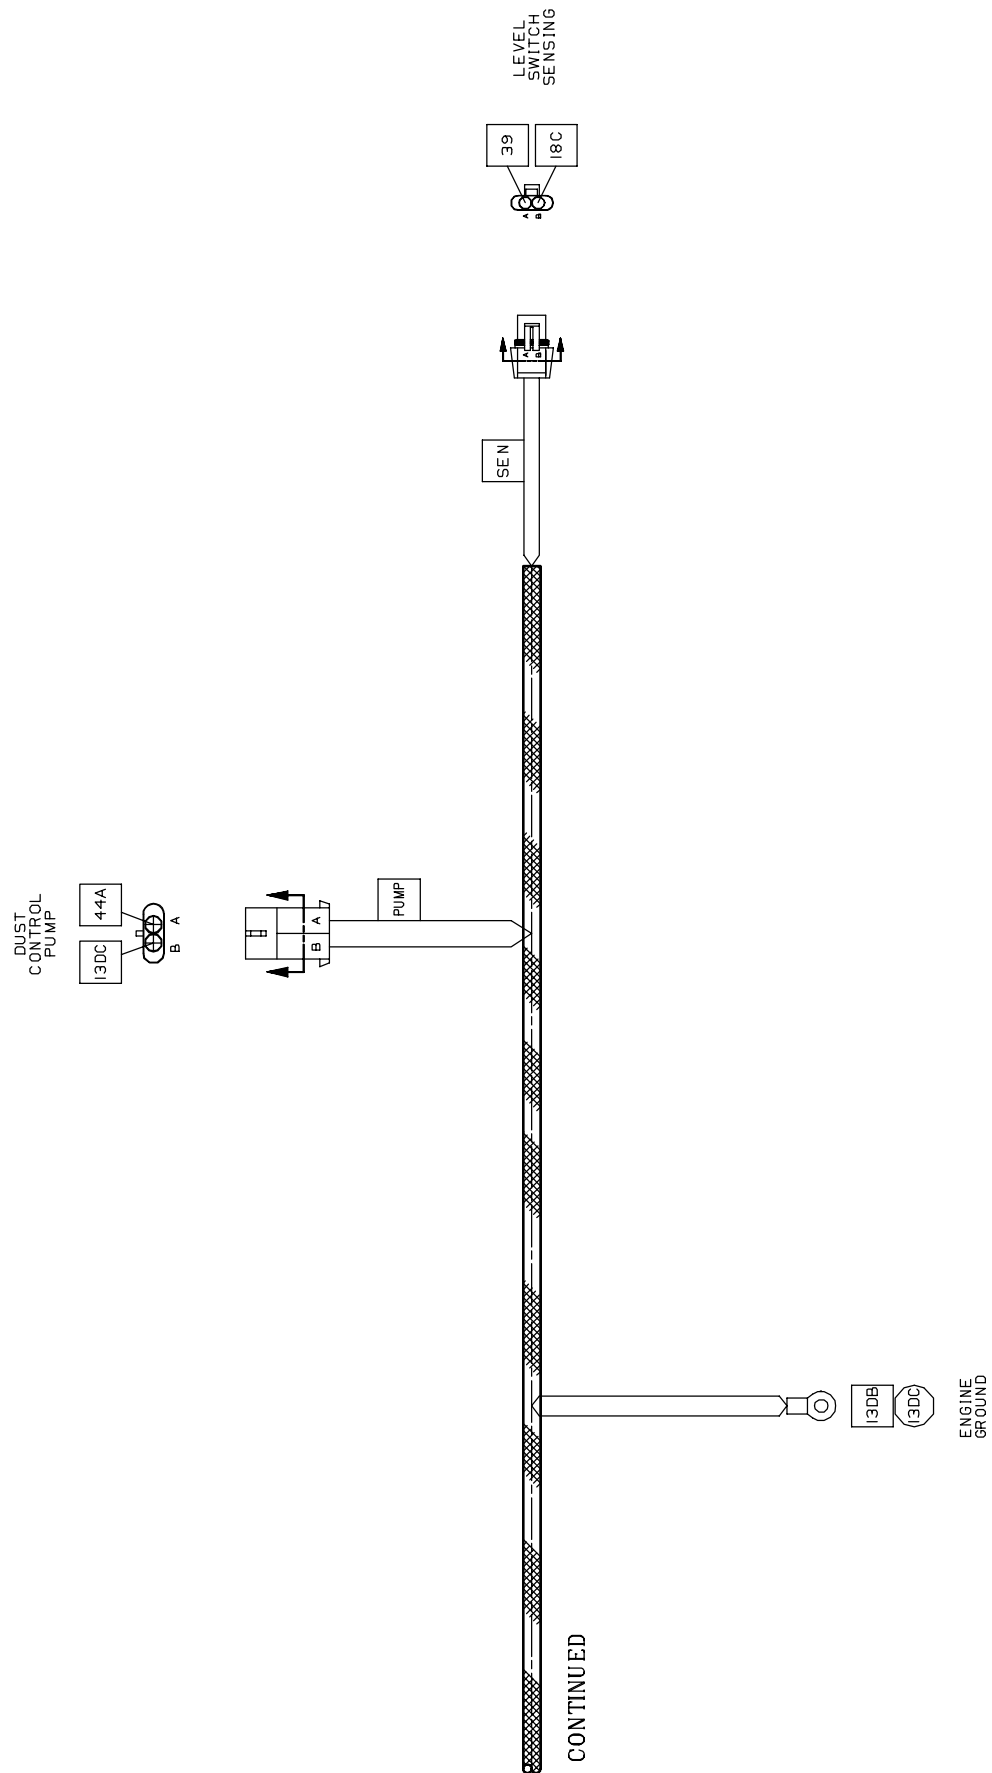

FIG. 2 - DUST CONTROL HARNESS
(Refer to FIG 2 and 3)
15. Mount the water flow timer (44) to the back side of the control panel, next to the circuit breakers. Connect the wire harness (34) to circuit breaker 1 using connector 378953. Close the control panel and replace the steering wheel, boot seal and steering wheel tilt lever knob. (Refer to FIG 2 and 3)
16. Route the dust control harness (34) down and back along the main harness to the control panel on the left hand side of the machine. Install the dry dust control switch (37) and switch retainer plate (38).
17. Route the smaller branch of the dust control harness to the dust control switch (37). Connect the wire harness (34) to the rocker switch. (Refer to FIG 2 and 3)
18. Continue routing the main branch of the dust control wire harness (34) along the main harness. Route the dust control wire harness back over the bell housing and ground at the main harness ground location. (Refer to FIG 2 and 3)
19. Connect the dust control wire harness (34) to the water pump. (Refer to FIG 2 and 3)